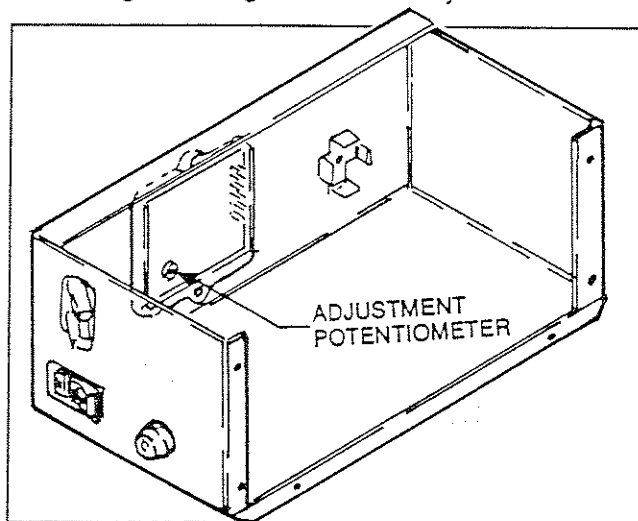

Figure 3. The AC Voltage Regulator
3. Slowly turn the slotted potentiometer on the AC voltage regulator (Figure 3) until the generator's line-to-line voltage reads as close as possible to 248 volts AC (244-252 volts).